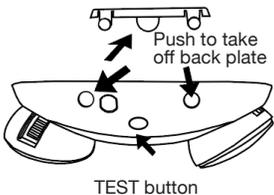

Fig. 1
1. Push round retaining tabs located on the bottom of the fixture to release the back plate (Fig. 1).